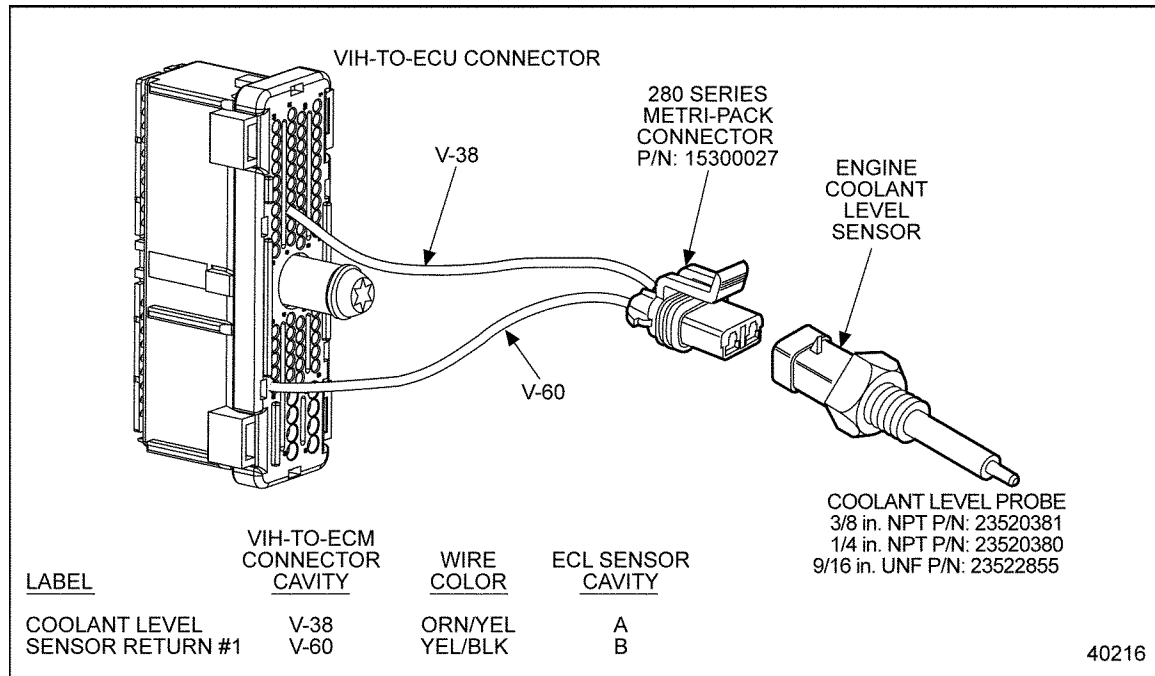

Figure 22-2 Engine Coolant Level Sensor
5. Inspect terminals at the CLS/ECL Sensor connector for bent, corroded and unseated pins or sockets. Ensure wires are not reversed at the CLS/ECL Sensor. See Figure 22-2.
3. Measure resistance between sockets A and B on the CLS/ECL Sensor harness connector. Also measure resistance between socket A and battery ground; and socket A and chassis ground. See Figure 22-2.
4. Inspect terminals at the CLS/ECL Sensor connector for bent, corroded and unseated pins or sockets. Ensure wires are not reversed at the CLS/ECL Sensor. See Figure 22-2.